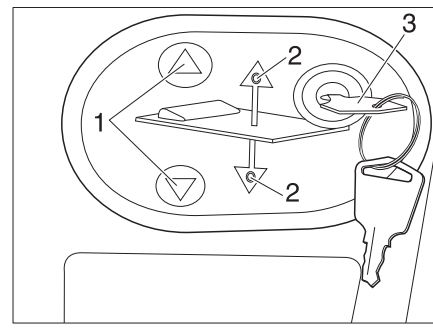

Fig. 156 Operating panel for the electrical pull-down bed
- Insert the key (Fig. 156,3) into the operating panel.
- Press the  or  (Fig. 156,1) button and keep it pressed. The respective LED (Fig. 156,2) lights up and the pull-down bed moves down or up.
- When the desired position has been reached, release the  or  (Fig. 156,1) button again. The respective LED (Fig. 156,2) extinguishes.
- Remove the key (Fig. 156,3).